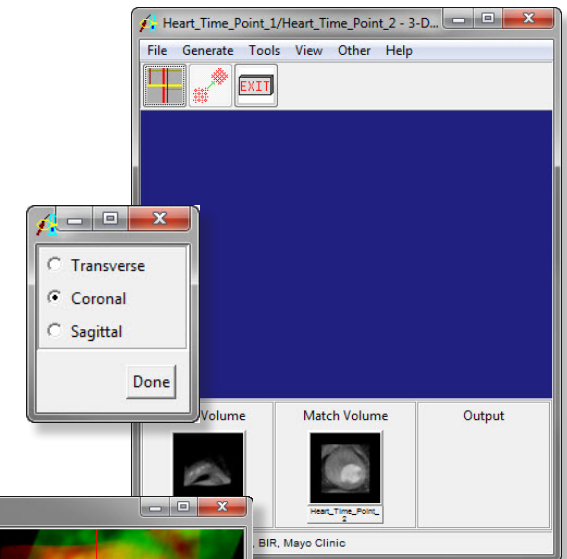

Figure 1
4. Choose **File > Input/Output Ports** to ensure that Heart_Time_Point_1 is assigned as the 'Base Volume' and Heart_Time_Point_2 is assigned as the 'Match Volume' (figure 1).